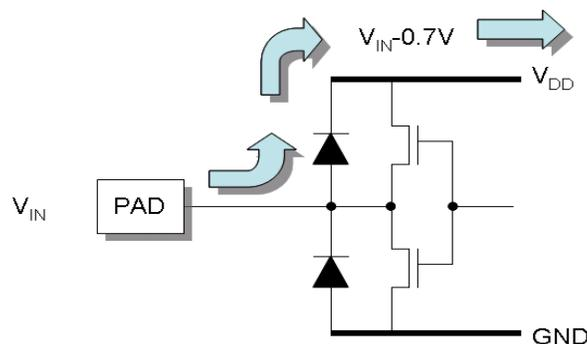
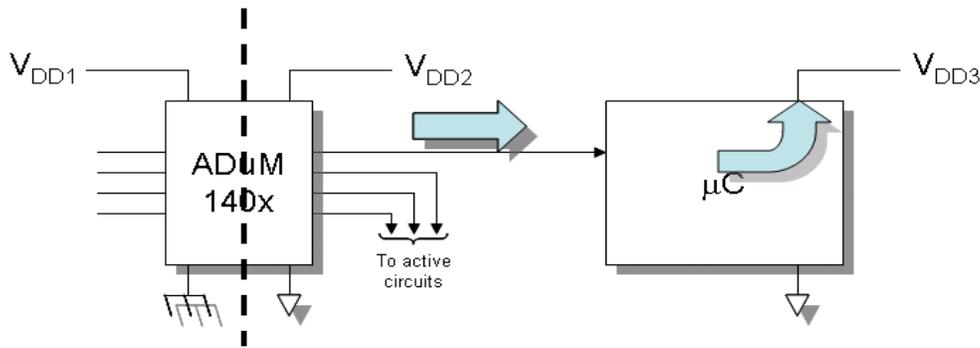

Figure 1 Typical CMOS input buffer
Figure 2 – Parasitic Power
Sometimes the low power nature of modern CMOS electronics can actually make the job of turning off segments of a design difficult. This is because CMOS logic ICs use diode structures at their inputs to protect against ESD, and these diodes can inadvertently source power to an IC that is supposed to be unpowered. We call this “parasitic power”, and here’s how it can happen: ESD diodes are connected between the input and the supply, V_{DD} , so that charge from an ESD event can be shunted away from the sensitive input to V_{DD} , as shown in Figure 1. When the IC is powered, the ESD diodes are off because the input voltage does not exceed V_{DD} . However, if the device is not powered, as might happen in a power-saving shutdown mode, and if the supply appears as a high impedance, then a signal from the input can supply $V_{IN} - 0.7\text{ V}$ at several mA of current to the V_{DD} bus and actually power on the IC.
1) If the *iCoupler* interface is functional while components that it is connected to are not powered, devices can be unexpectedly active. As shown in Figure 2, the V_{DD2} supply is active to allow communication with other active circuit elements. One of the data lines is connected to a device with an inactive V_{DD3} supply. This component can be parasitically powered by the data line via the mechanism shown in Figure 1. This can happen if that data line is high, or if the *iCoupler* isolator has a default HIGH output and V_{DD1} is also inactive.